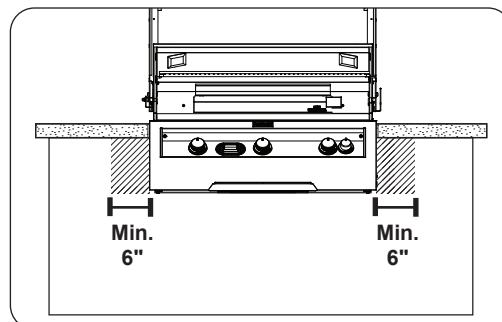

Fig. 17-1 Control panel clearances
- The control panel **MUST** have a minimum side clearance of 6" from any obstructions/side walls. See Fig. 17-1.